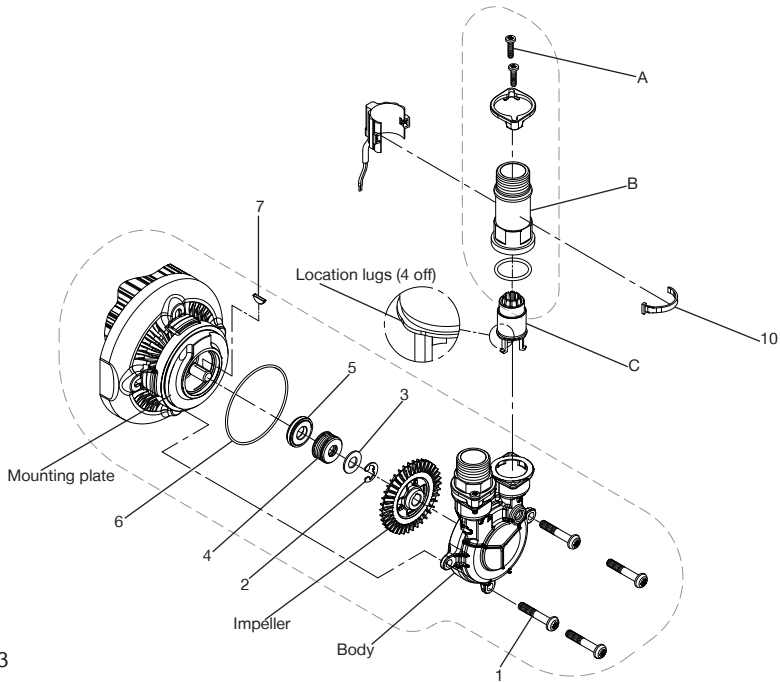
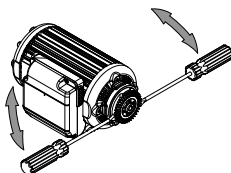

Fig. 3
Fig. 4
To disassemble the pump, the following items are required to be removed in the sequence detailed (Fig. 3).
- Remove screws (A) and lift flow switch body complete with reed switch (B) away and position next to pump ensuring no stress is placed on the cable.
- Magnet carrier and flow switch adaptor (C) may separate from flow switch body (B) during disassembly as shown.
- Remove 4 screws (item 1) and gently prise off the pump body – note ‘O’-ring (item 6) between pump body and mounting plate.
- Slide impeller away from shaft and remove woodruff key (item 7) – (see note: Fig. 4).
- Remove circlip (item 2) and mechanical seal parts. (items 3 & 4).
- Remove Counterface (item 5) from its mounting plate location.
- Note: Other parts are supplied in this kit and can be used as shown in Fig. 3 if replacement required.
Difficulties may be experienced in the removal of the impeller. To overcome this, two screwdrivers can be used to gently lever the impeller away from the shaft as detailed (Fig. 4), ensuring equal pressure is applied to each side of the component to avoid bending the shaft.